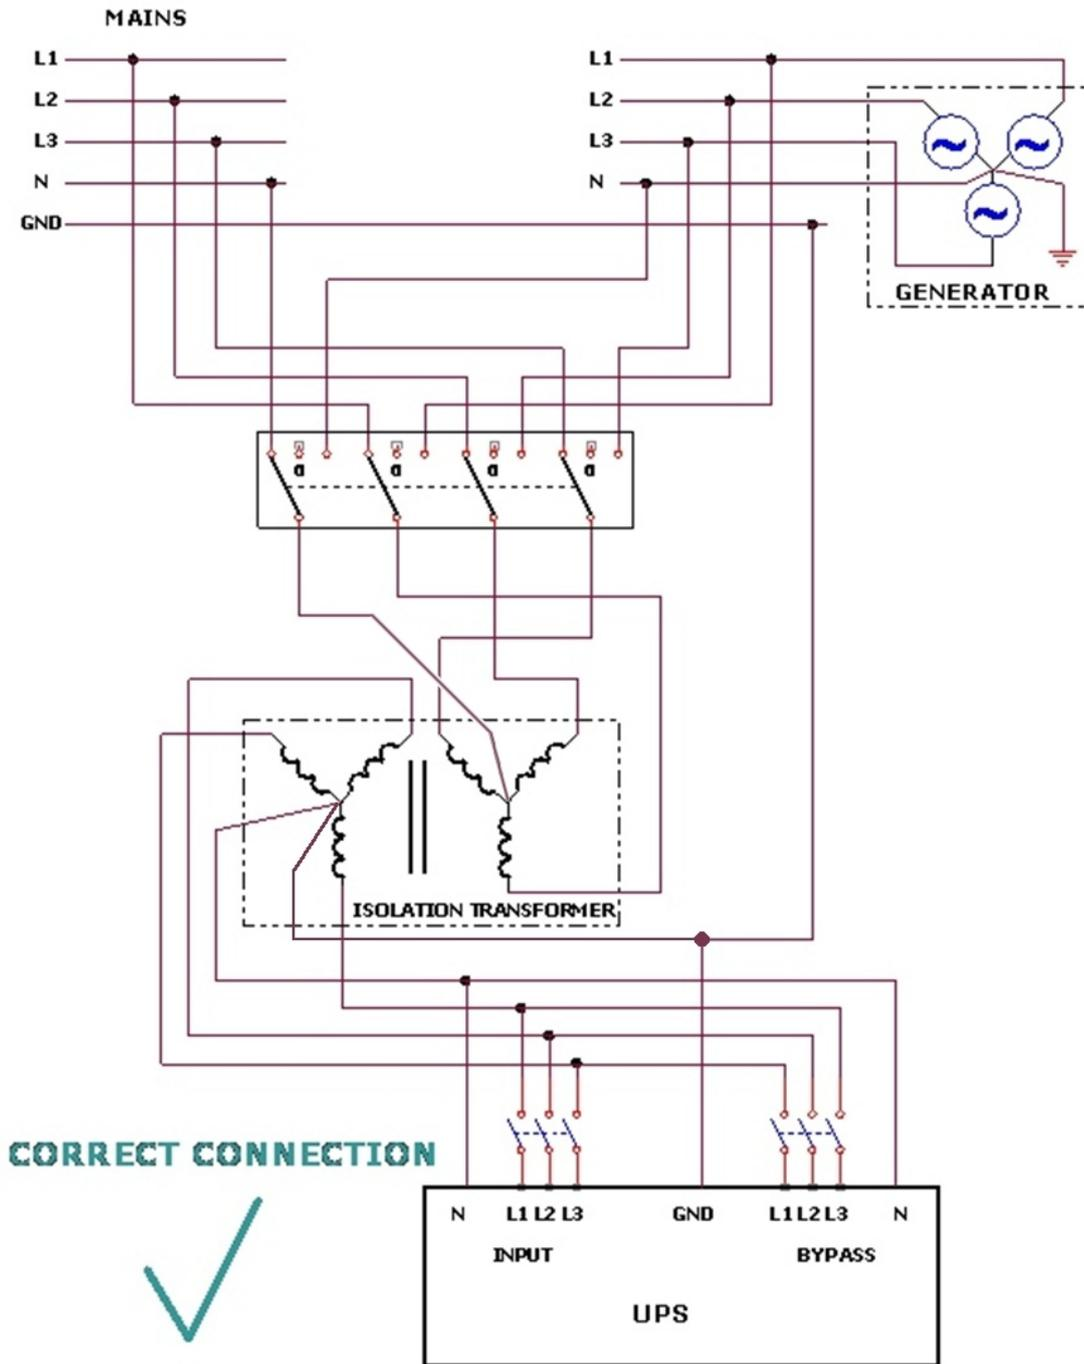

Figure 4-5: Acceptable connection for grounded generator and 4-pole switch
**Figure 4-5** on page 22 illustrates an acceptable connection solution if you already have a grounded-neutral generator.